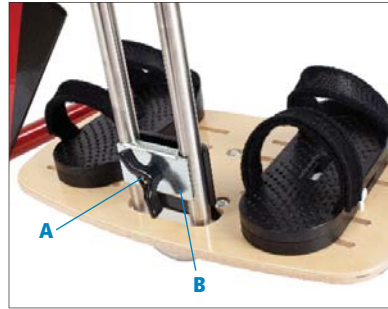

Figure 7a
Reposition by removing knob (A) and clamp (B). Rotate footboard into correct position, replace clamp and knob and retighten (see Figure 7a).